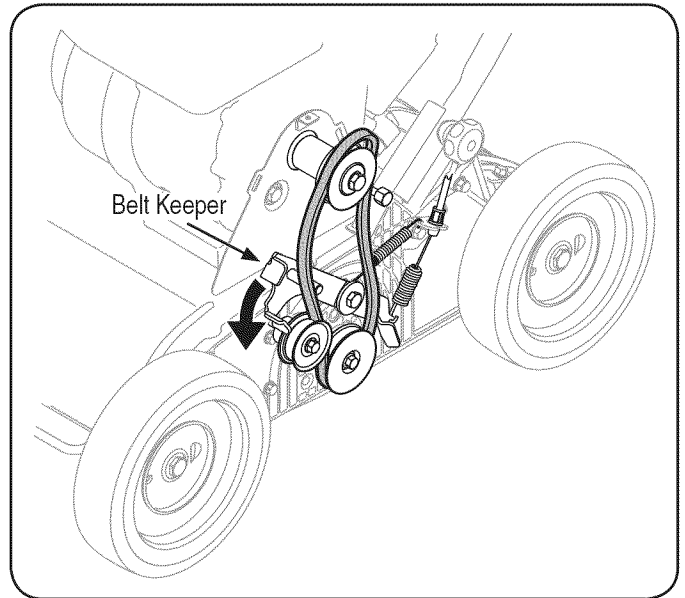

Figure 16
3. Remove the belt by pulling over and out from the top pulley. Swing the belt keeper downwards to release belt from lower pulley. See Figure 16.
3. Remove the six screws on the left and right side. See Figure 16.